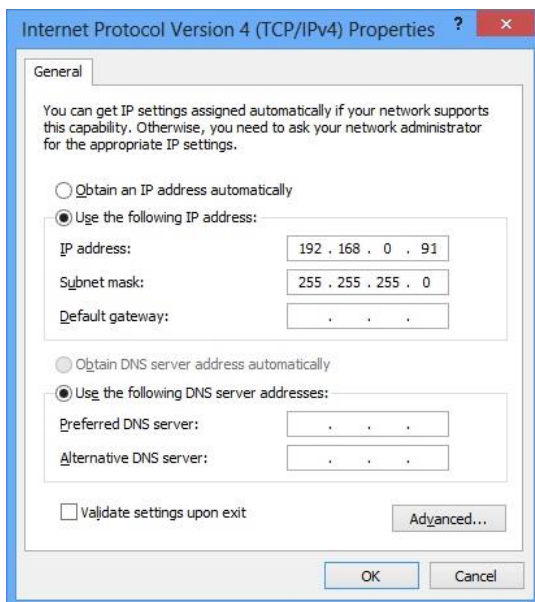

Fig. 10.10: Properties window of the "Internet Protocol Version (TPC/IPv4)"
- e. Copy the configuration as in **Fig. 10.10** on the "Internet Protocol Version (TPC/IPv4) Properties" window.